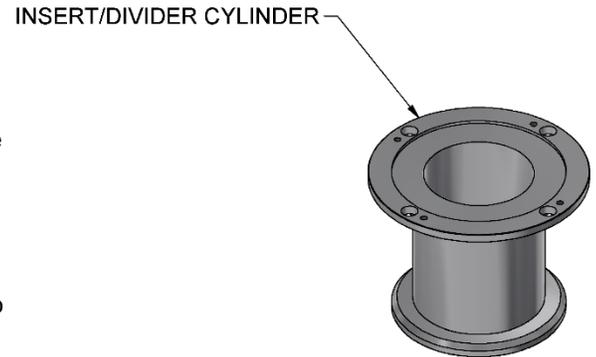

Figure 11: Insert/Divider Cylinder
- Adjust the plunger to be flush with the bottom of the divider cylinder insert (Figure 11) that sits inside the divider slide.